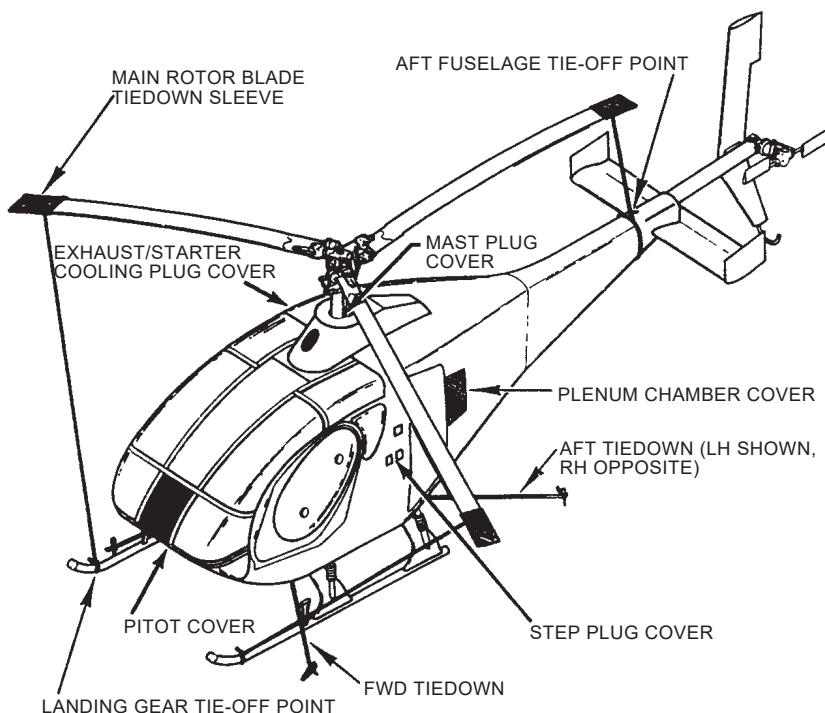

Figure 7-4. Parking and Mooring
7-14. PARKING (Fig. 7-4)
- • • Turn blades until one blade is directly above aft fuselage (Fig. 7-4).
- • • Attach aft lines at respective ends of aft cross beam, near the damper attach point. Tie lines to stakes/mooring anchors as shown on Fig. 7-4.